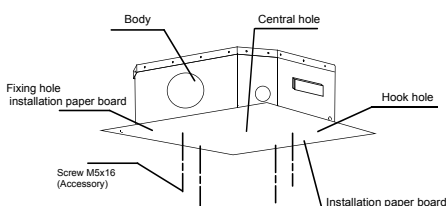

Fig.5-8
- 2 After installing the body, please fasten the installation paper board onto the air conditioner with bolts(M6X16) to determine in advance the sizes and positions of the hole opening on ceiling. (Refer to Fig.5-8)